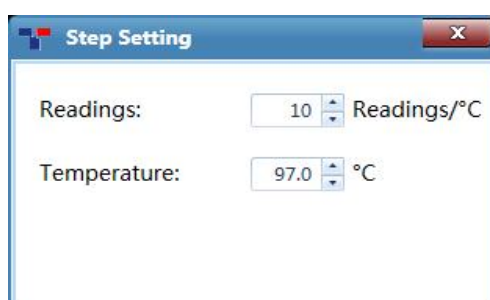

Figure D-5.6g. Step Setting Dialog Box – Continuous Melting Step Mode
- VI. **Continuous Melting**: continuous melting stage allows the system to read the fluorescence more frequently. If the current step is the last step of continuous melting stage, user can set the fluorescence reading times per °C for the current step in the **Step Setting** dialog box, as shown in figure D- 5.6g.